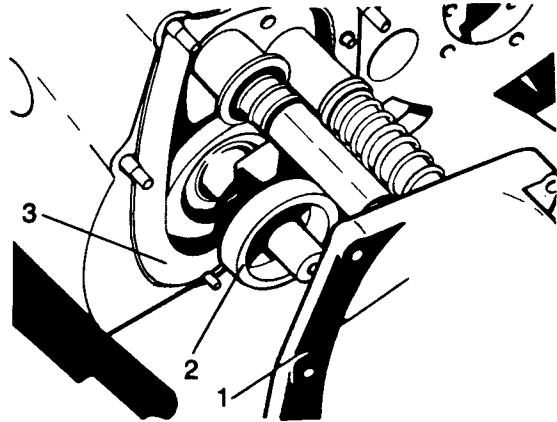

Fig H1.89
- (6) Refer to Fig H1.89. Remove the front output shaft cover (1) proceeding with care to catch the four wheel drive dog (2).
- (7) Remove the gasket (3) and extract the selector fork for high and low which remained loose in the transfer box casing.
- (8) If the selector shafts have been removed, replace as in Sub-sub-section H1.3, Chapter 4.